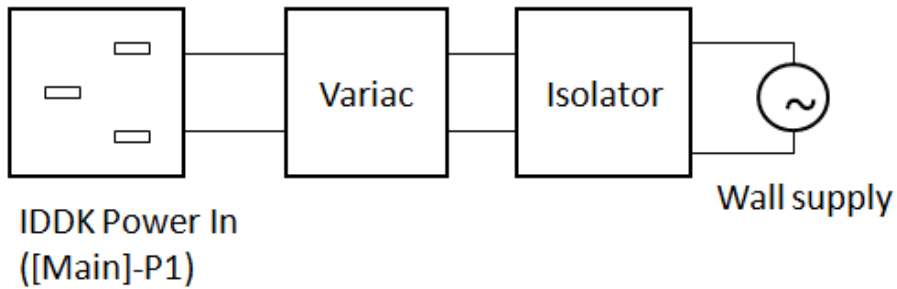

Figure 4 Connection diagram with AC input
- 2.To use AC Mains Power, connect [Main]-BS1 to [Main]-BS2 using banana plug cord. Then connect one end of the AC power cord to [Main]-P1. Connect the other end to the output of a variac after ensuring that its output is set to zero and that it is connected to the wall supply through an isolator as shown in Figure 4 below.